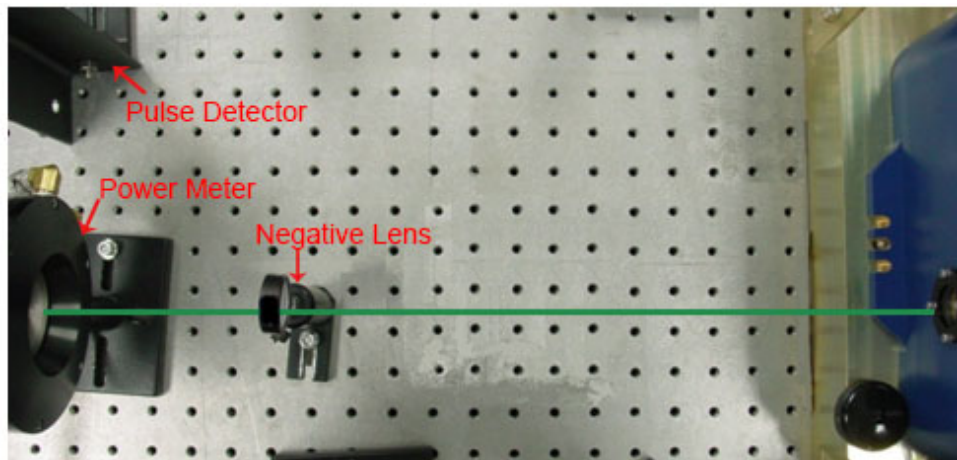

Figure 4-2 Basic Setup for the Laser Power Test
A power meter, with the ability to handle the maximum power of the laser, should be installed approximately 0.5 meter away from the laser in the direction of the laser output beam. To protect the power meter, a negative lens ($f=-100$ mm) with an anti-reflective (AR) coating at output wavelength should be installed in front of the power meter as shown in Figure 4-2 below. If a negative lens is not available, only a small portion of the laser power should be measured by a beam sample, so that the power density is below the damage threshold of the power meter. The power should be calibrated in this way. A pulse detector should be positioned as shown in Figure 4-2 to verify the pulse characteristics of the laser.